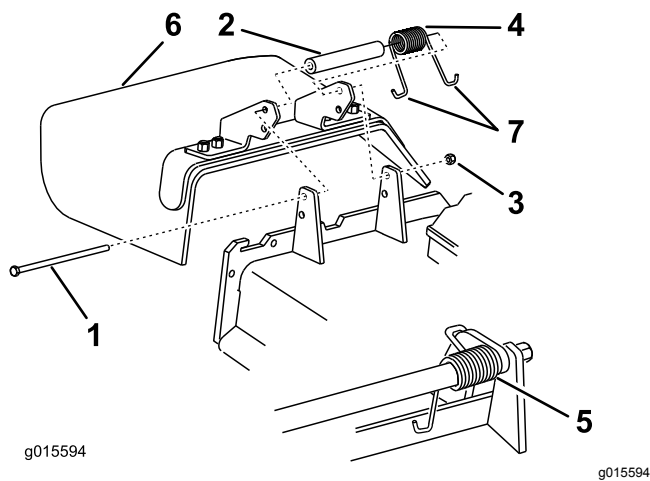

Figure 107
1. Remove the locknut, bolt, spring, and spacer holding the deflector to the pivot brackets (Figure 107). Remove the damaged or worn grass deflector.
Note: Make sure one **J**-end of the spring is installed behind the deck edge before installing the bolt as shown in Figure 107.
- Install the bolt and the nut. Place one **J**-hook end of the spring around the grass deflector (Figure 107).